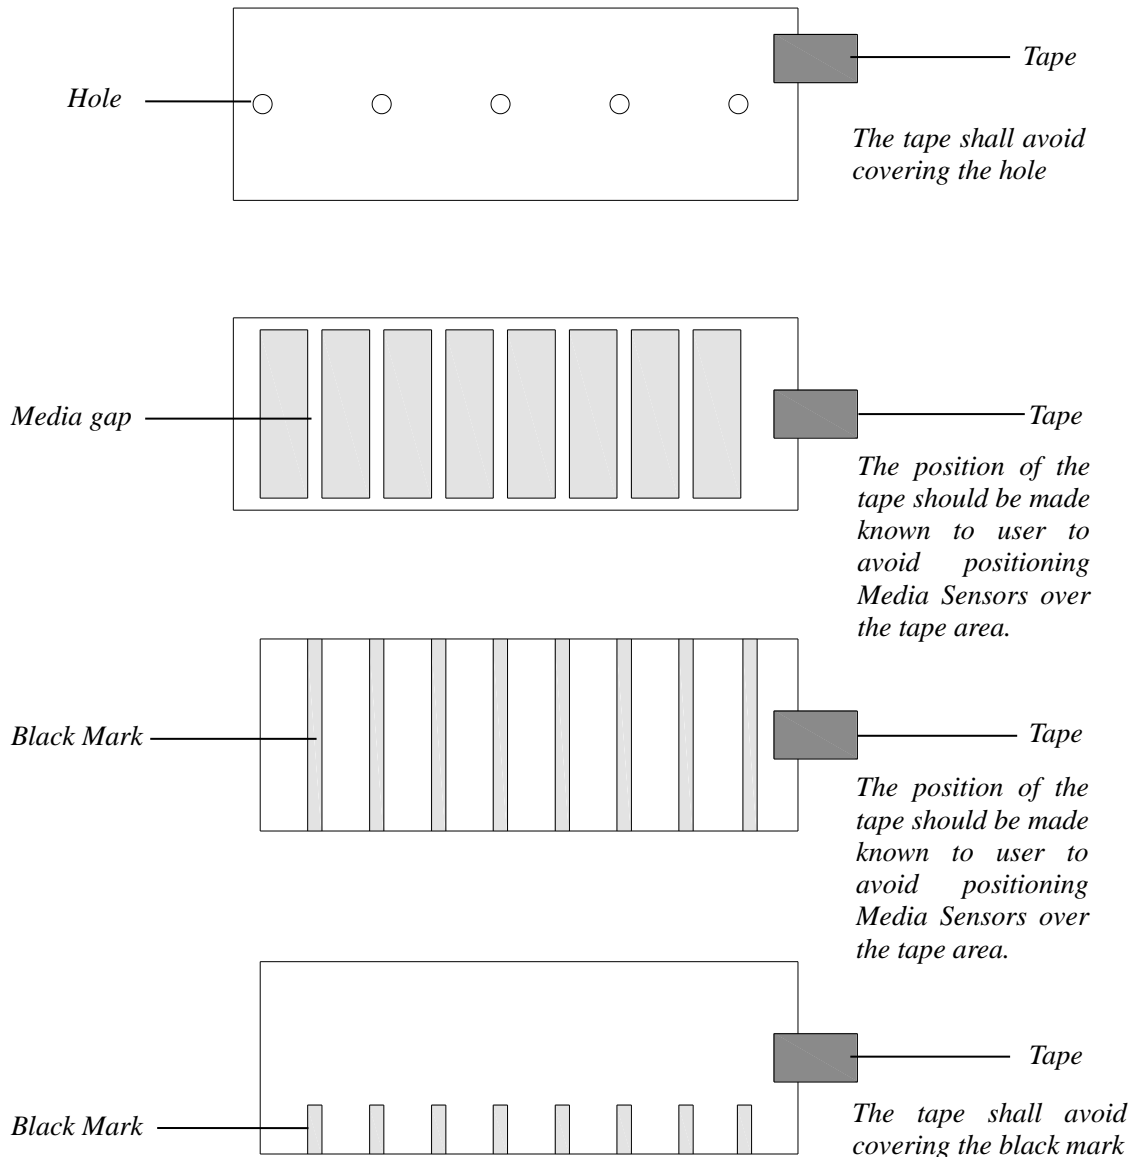

Figure 2-14 End-fixing Tape Position
- When roll media is produced, the media end would be fixed on the media core by duct tape or scotch tape. If your printer cannot detect Media Out signal well, please refer to Figure 2-14 to check the position of the tape.